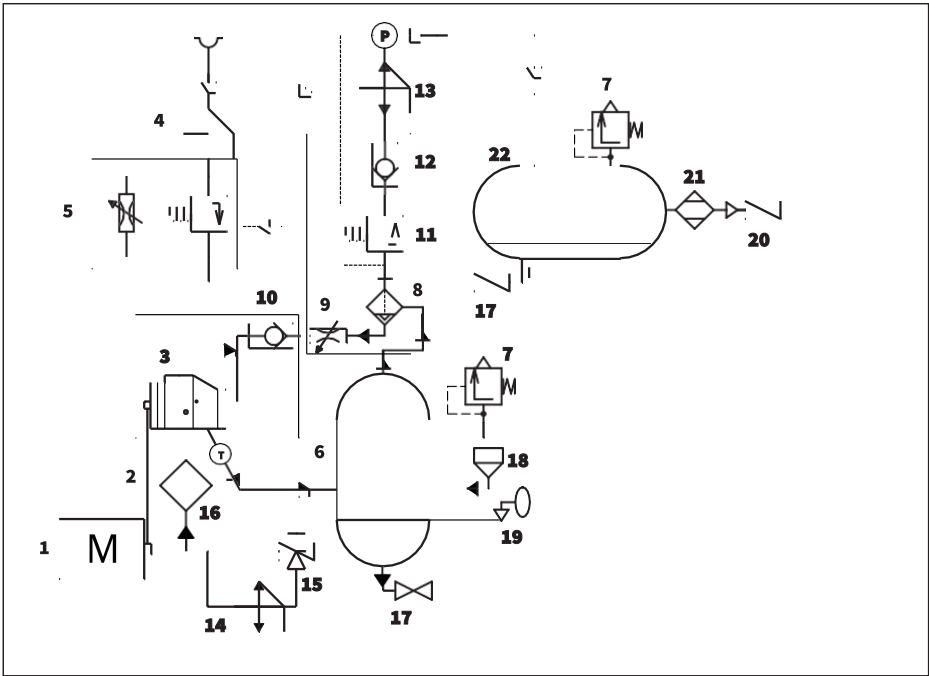

Fig. 2.3.2 Function diagram AR07...-AR22..., ARD07...-ARD22..
2.4 Functional description (see Fig. 2.3.1 and Fig. 2.3.2)